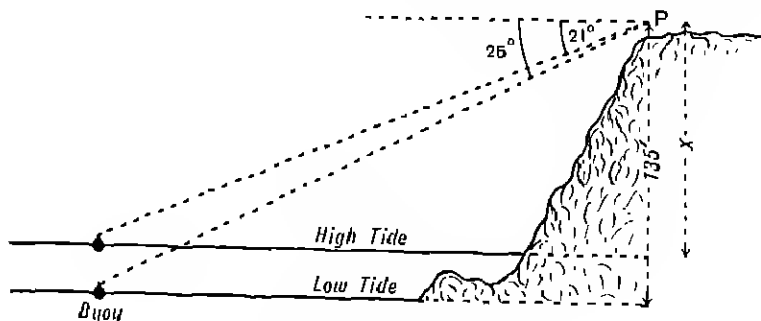

FIG. 91. DIAGRAM FOR EXAMPLE 3
3. From the diagram, Fig. 91, find the difference in level of high tide and low tide.